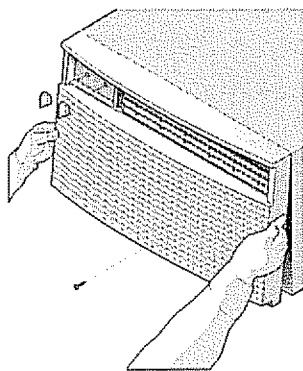
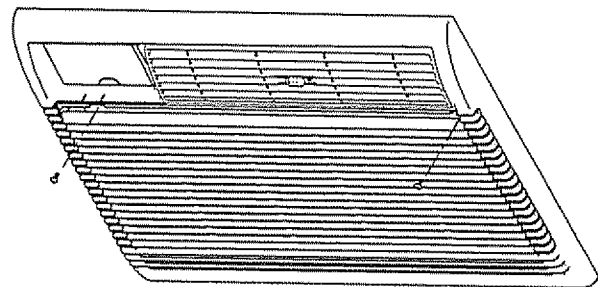

FIG 1
FIG 2
Front Installation - Some Side Air Discharge Models (FIG. 1)
- Install front retaining screw(s) at the bottom of the front (Fig. 1), or behind the filter handle (Fig. 2)
The Fresh Air Vent allows the air conditioner to recirculate inside air (OFF), draw air into the room (FRESH AIR) or exhaust stale air to the outside (VENT). See Figures 1, 2 & 3 for this operation.
- Some models, push the vent control handle to the OFF position. Lift the filter straight up and out (Figure 1)